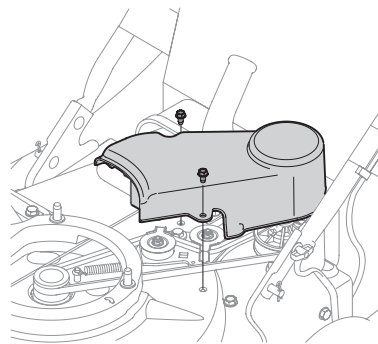

Figure 15
4. If equipped with a drive control, remove the three self-tapping screws securing the belt cover and remove belt cover. See Figure 15.